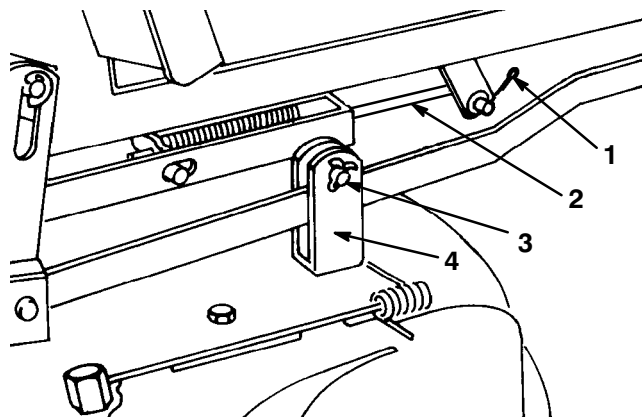

Figure 37
- Remove the cotter pin from the adjustment rod and pull it from the pivot tube arm (Fig. 37).
- Remove the cotter pin from the adjustment rod (Fig. 37).